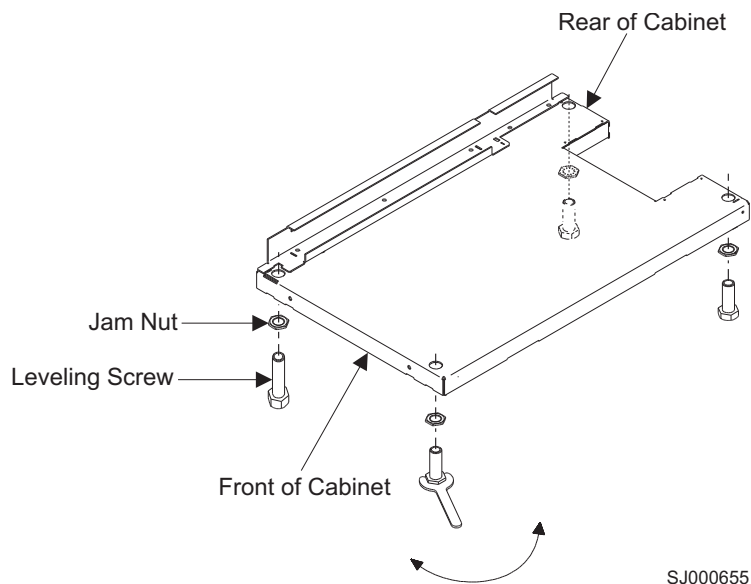

Figure 71. Leveling the rack
27. Adjust the leveling feet downward, as needed, until the rack is level. See Figure 71. When the rack is level, tighten the jam nuts against the base by turning the jam nut clockwise (toward the bottom of the rack). Torque the four bolts to 54–67 nm (40–50 ft-lbs).